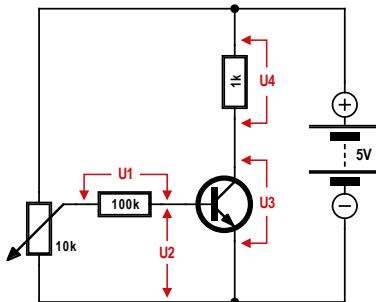

Figure 1. Measurement setup.
**Figure 1** shows our measurement set-up. The potentiometer connected to the circuit input allows the input voltage to be adjusted in small increments over the range from zero to 5 V. For each setting, you should measure and record the four voltages  $U_1$ – $U_4$ . From this you can derive the currents and the amplification factor  $A$ . Table 1 shows an example of values measured with a BC547B transistor using separate, fixed multimeters for  $U_1$ ,  $U_2$  and  $U_3$ .  $U_4$  was calculated from  $U_3$ , and the currents and amplification factor were derived from the measured voltages.